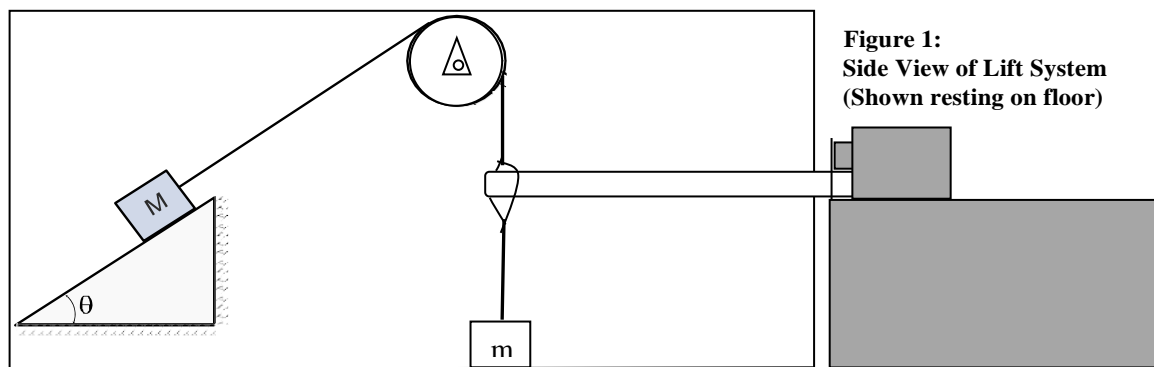

Figure 1:
A lift system is required to lift an end mass (m) of 500g suspended from a pulley boom. The lift is to be driven by a counterbalance mass (M) on an adjustable inclined plane ($40^\circ \leq \theta \leq 55^\circ$) connected to the pulley by a non-elastic cord as shown in Figure 1 below –